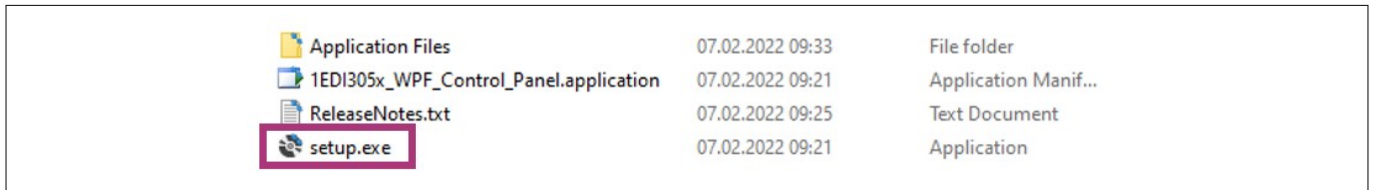

Figure 21 .NET Framework 4.8 download instruction – application file
- 3. Run the “setup.exe”. See Figure 21